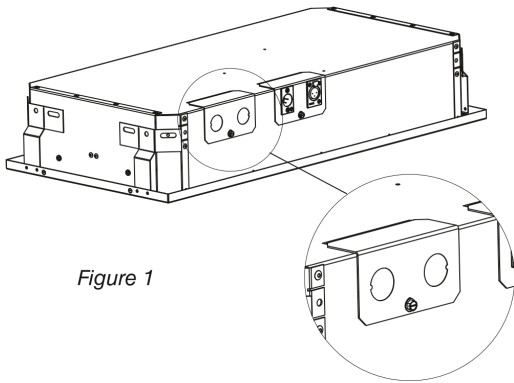

Figure 1
2. Prepare the line voltage wiring to the fixtures. You may want to partially install the power wiring before the fixture is placed in the T-bar or drywall ceiling, if access is difficult. Ensure that the supply voltage matches that required by the driver. To install the power feed, loosen the screw holding the power entry plate and remove the plate (Figure 1). Remove the knockouts as needed and install the correct type of power cabling and strain relief (not provided). Connect the wires from the feed using wire-nuts, observing the wire color coding, and re-install the knockout plate. Brightline fixtures intended for the North American market use black/white/green wires respectively for line/neutral/ground; fixtures shipped to other locations use brown/blue/green-yellow for line/ neutral/ground. In most cases, it is useful to install sufficient slack in the power cable so that the fixture may be moved to an adjacent tile opening without having to extend the wiring.